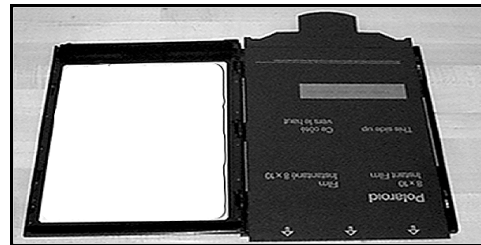

Figure 2
3. Slide the negative so the fold underneath hooks securely onto the orange tongue of the cassette. Correctly positioned, the packet will extend slightly beyond the edge of the cassette. (*Figure 2*)